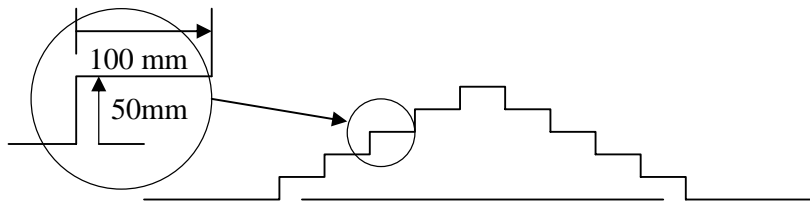

Fig.2 – Cross-Section of Staircase Section.
- 3.3 There is also a special section of the track that is a 5-step staircase, i.e. 5 steps up and 5 steps down as shown in Figure 2. The staircase section will only be placed between two low straight sections.